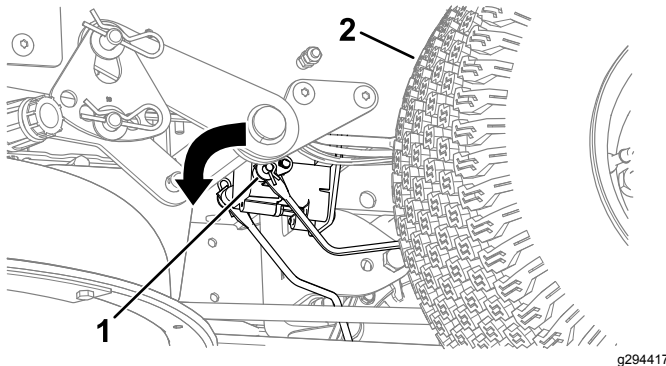

Figure 51
3. Locate the shaft on the electric brake where the brake link arms are connected (Figure 51).